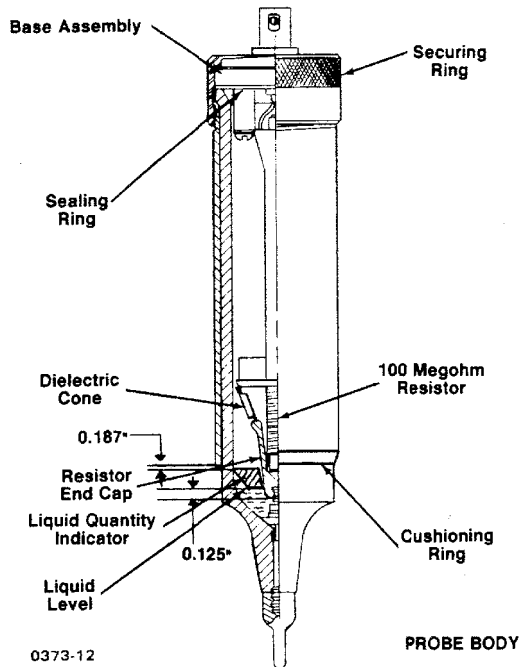

Fig. 4-1. Cutaway view of the P6015 Probe.
Fluorocarbon 114 has a saturation pressure of about 2 atmospheres at room temperature. At room temperature, a small amount of liquid should be visible through the transparent nose of the probe when the probe tip is pointed down. Any liquid visible in the nose is an indication of proper pressure inside the probe. The saturation pressure increases with temperature, and at higher temperatures it is normal for all of the Fluorocarbon 114 to be in a gaseous state. The top of the Liquid Quantity Indicator, at room temperature, should be approximately 3/16" (0.187 inch) below the bottom of the metal shield sleeve (see Fig. 4-1).
1. Uncouple the two halves of the probe body cover and remove the cushioning ring (see Fig. 4-1).
4. Hold the probe tip down and release Fluorocarbon 114 into the probe body until the liquid level is approximately 1/8" (0.125 inch) above the small end of the gold-plated resistor end cap (see Fig. 4-1).